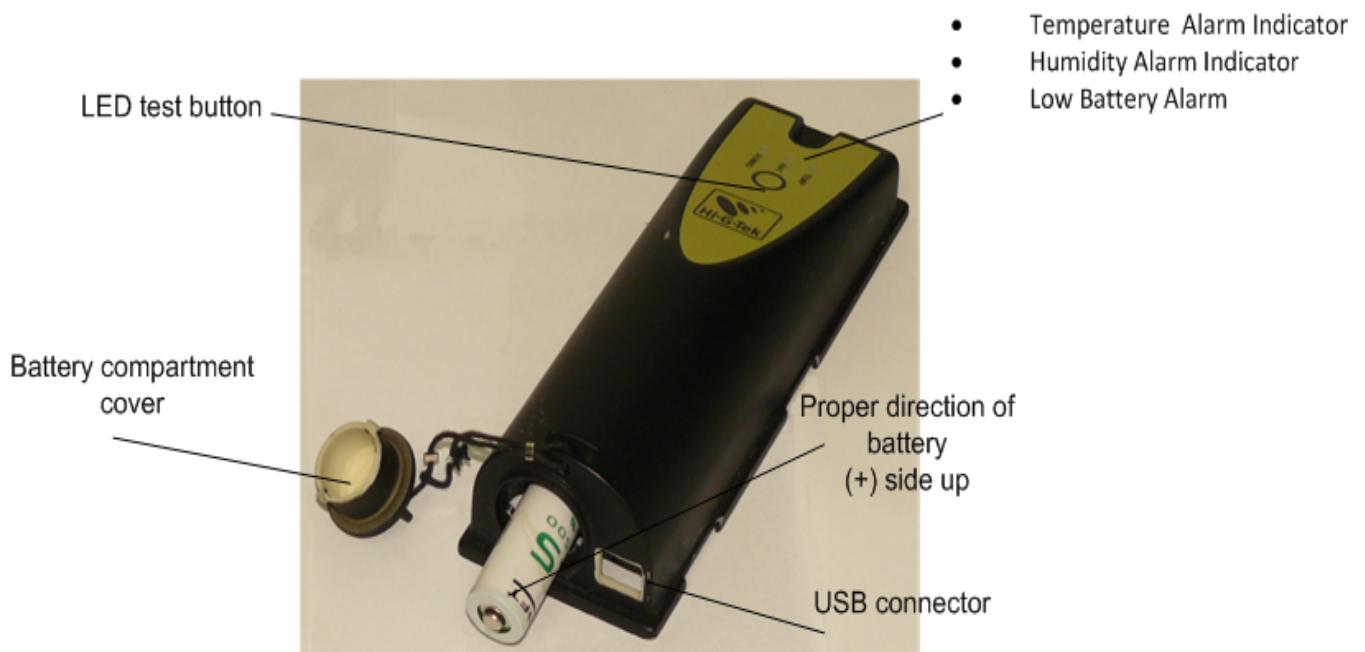

Figure 2: Installing the battery
- press the LED test button – see Figure 2.